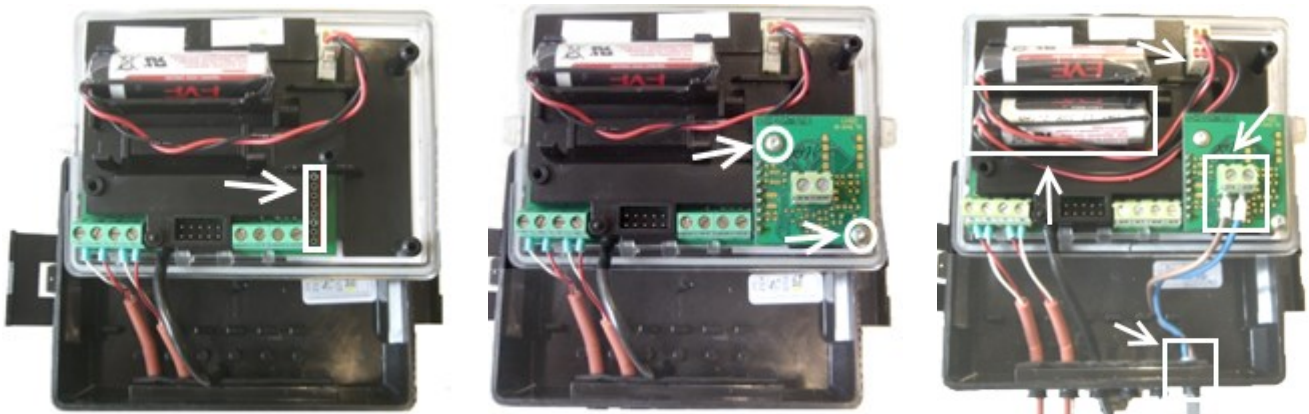

Fig. 5.3. Installation the M-Bus module in the meter's calculator.
3. Put the module into designated contact socket (see Fig. 5.3.). The contact pins of module must not be bent.